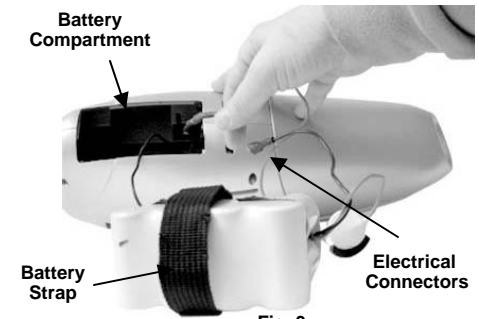

Fig. 3
4. Use the strap around the battery pack (A) to pull out. Remove battery pack (B) from the side compartment.
5. Carefully detach the two (2) electrical connectors from the battery pack by pulling straight out. (Fig. 3)